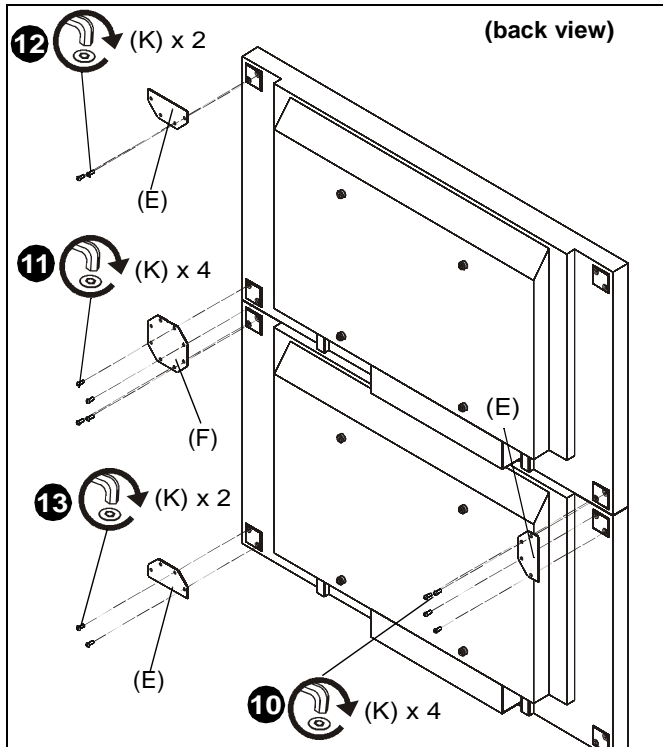

Figure 11
9. Place one edge attachment bracket (E) behind installed displays, lining up the eight holes with the four holes in the upper left corner of the bottom display and the lower left corner of the top display. (See Figure 11)
10. Install four M4 x 16mm security screws (K) through edge attachment bracket (E) and into backs of displays. (See Figure 11)
11. Install four M4 x 16mm security screws (K) through holes of middle attachment bracket (F) and into lower right holes of upper display and upper right holes of lower display. (See Figure 11)
12. Install two M4 x 16mm security screws (K) through holes of edge attachment bracket (E) and into upper right holes of upper display. (See Figure 11)
13. Install two M4 x 16mm security screws (K) through holes of edge attachment bracket (E) and into lower right holes of lower display. (See Figure 11)